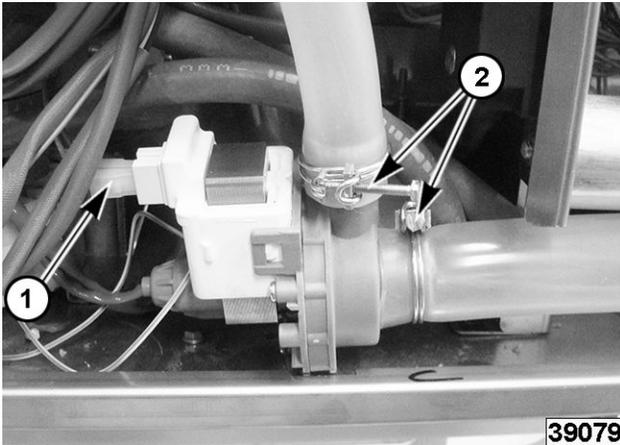

Fig. 55
2. Note and disconnect wiring (1, Fig. 55).
3. Disconnect tubing (2, Fig. 55).